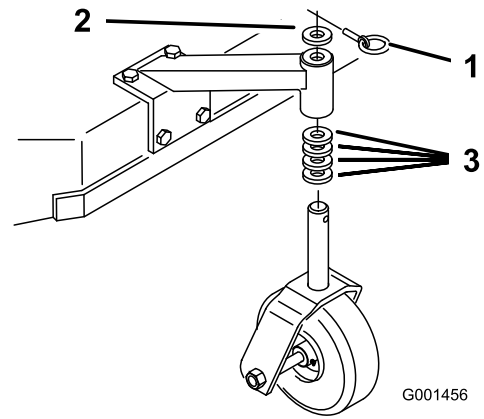

Figure 19
1. Using the Height-of-Cut Chart (page 23), adjust the caster spacers to match with the axle hole selected (Figure 19).
2. Remove the latch pin, slide the caster from the support, and change the spacers (Figure 19).
3. Install the caster in the support and insert the latch pin (Figure 19).